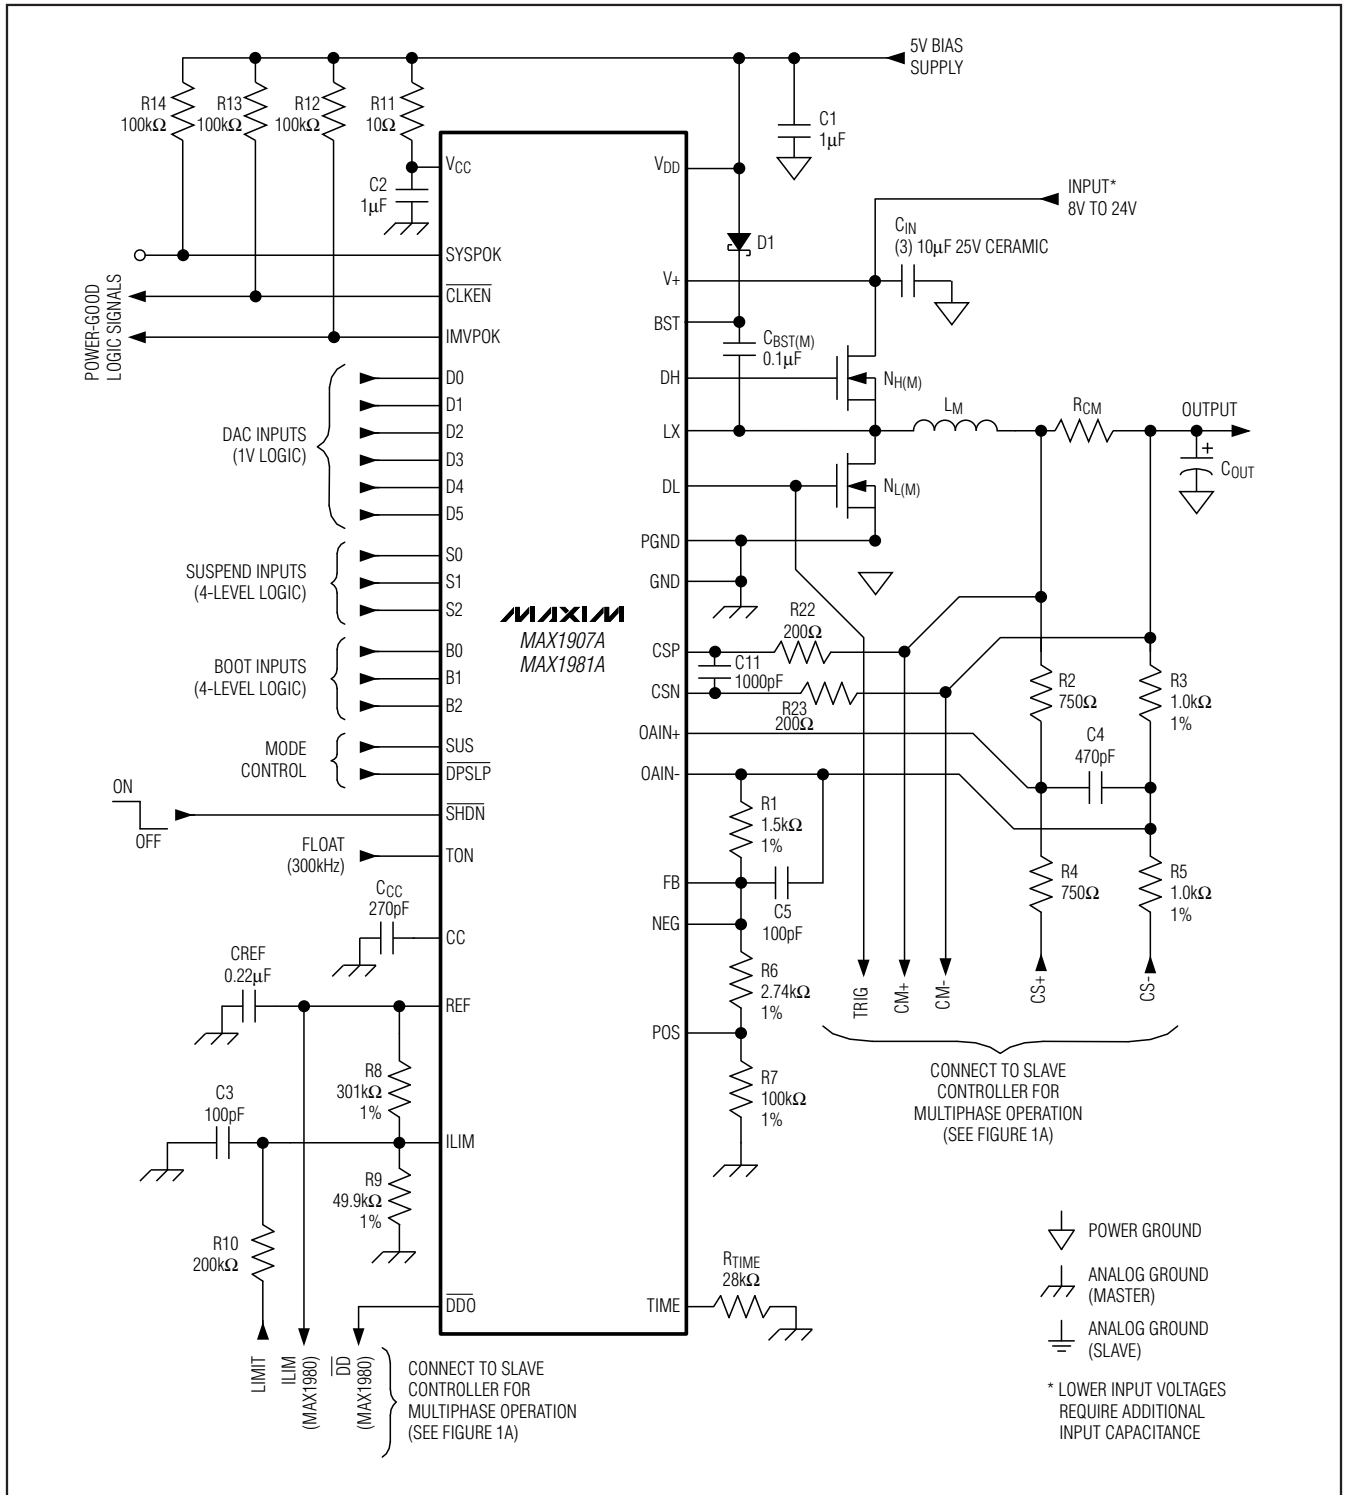
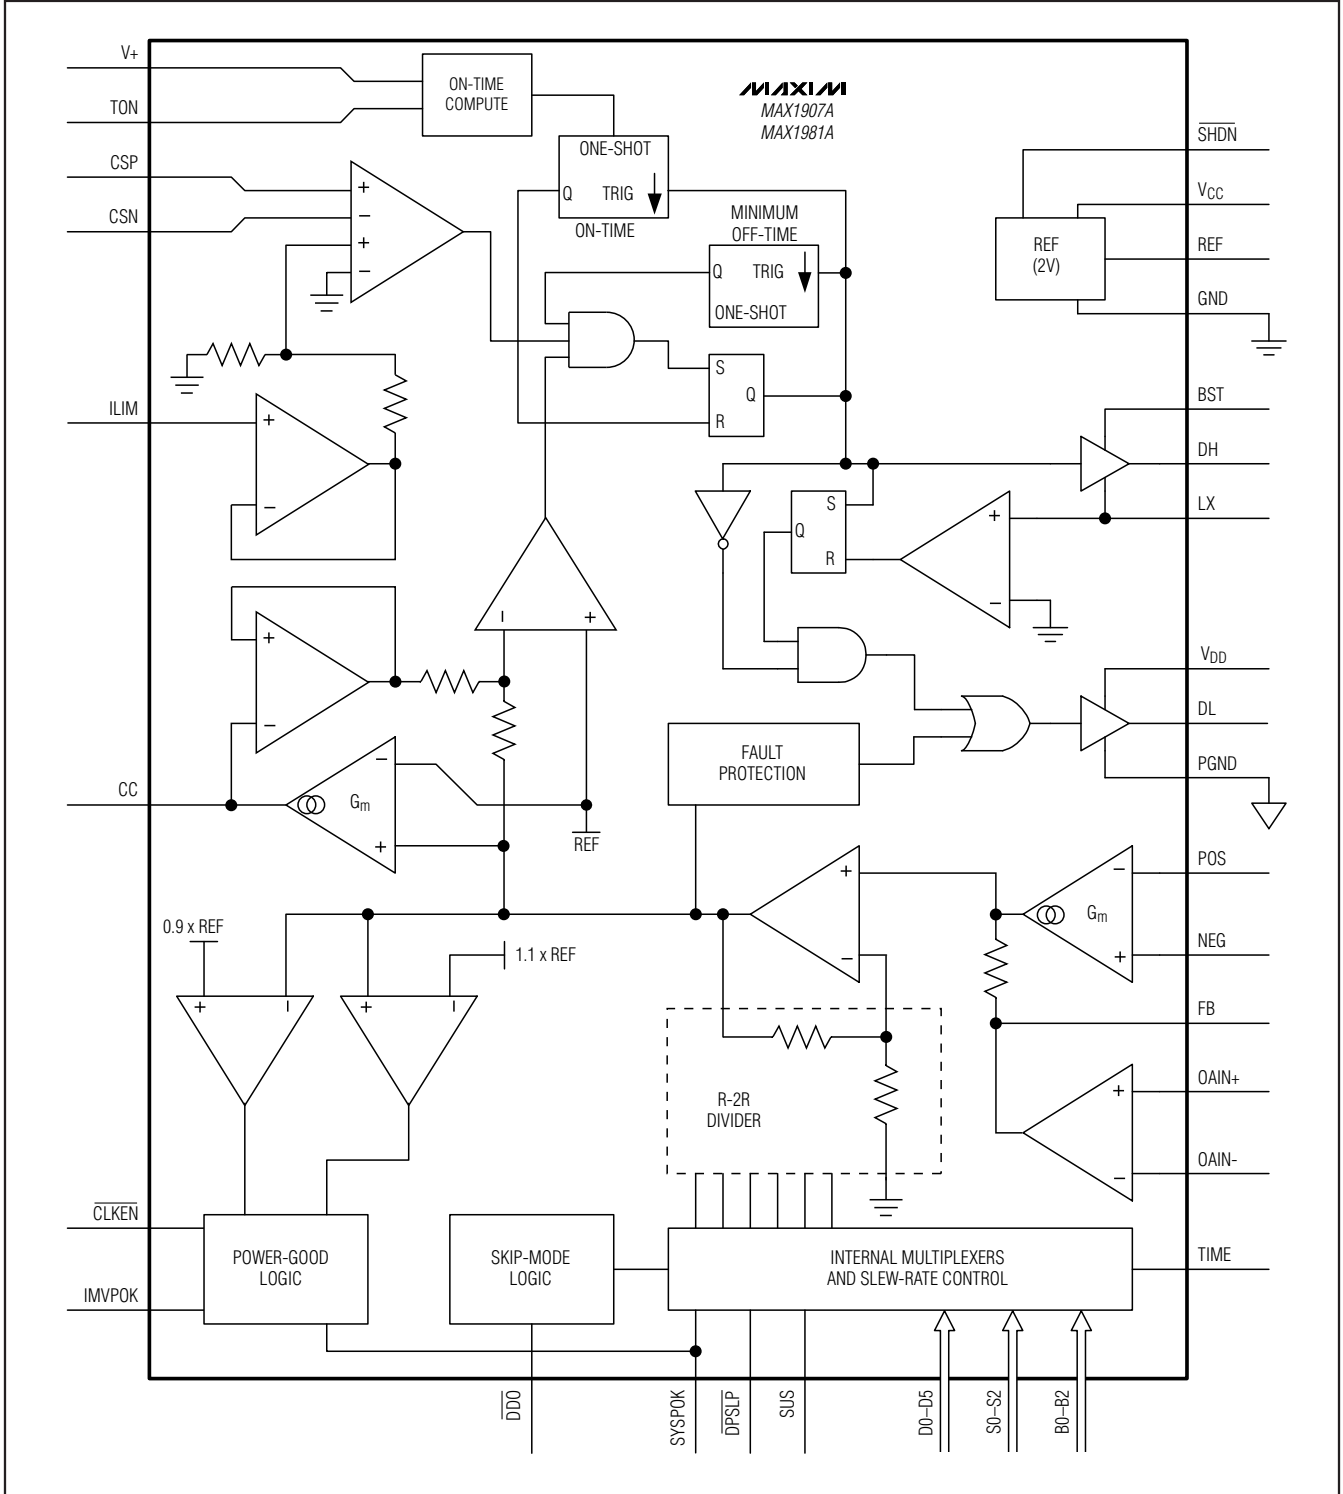

Figure 1. Standard Multiphase Application Circuit
Figure 2. MAX1907A/MAX1981A Functional Diagram
(Circuit of Figure 1, $V_+ = 12V$, $V_{CC} = V_{DD} = 5V$, B0–B2 set to 1.276V, S0–S2 set to 0.748V.)
Table 1. Component Selection for Standard Multiphase Applications (Figure 1)
The Quick-PWM control architecture is a pseudo-fixed-frequency, constant-on-time, current-mode regulator with voltage feed-forward (Figure 2). This architecture relies on the output filter capacitor's ESR to act as the current-sense resistor, so the output ripple voltage provides the PWM ramp signal. The control algorithm is simple: the high-side switch on-time is determined solely by a one-shot whose period is inversely proportional to input voltage and directly proportional to output voltage. Another one-shot sets a minimum off-time (400ns, typ). The on-time one-shot is triggered if the error comparator is low, the low-side switch current is below the current-limit threshold, and the minimum off-time one-shot has timed out.
Two transconductance amplifiers provide a fine adjustment to the output regulation point (Figure 2). One amplifier forces the DC average of the feedback voltage to equal the VID DAC setting. The second amplifier is used to create small positive or negative offsets to the feedback voltage, using the POS and NEG pins.
The POS/NEG amplifier is used to add small offsets to the VID DAC setting in deep-sleep mode ($\overline{DPSLP} = \text{low}$). The offset amplifier is summed directly with the feedback voltage, making the offset gain independent of the DAC code. This amplifier has the ability to offset the output by $\pm 200\text{mV}$. To create an output offset, bias POS and NEG to a voltage (typically V_{OUT} or REF) within their 0 to 2V common-mode range, and offset them from one another with a resistive divider (Figure 1). If V_{POS} is higher than V_{NEG} , then the output is shifted in the positive direction. If V_{NEG} is higher than V_{POS} , then the output is shifted in the negative direction. The output offset equals the voltage difference from POS to NEG.
In skip mode (SUS = high, or DPSP = low), an inherent automatic switchover to PFM takes place at light loads (Figure 3). This switchover is effected by a comparator that truncates the low-side switch on-time at the inductor current's zero crossing. The zero-crossing comparator senses the inductor current across the low-side MOSFET. Once VLX - VPGND drops below 4mV (typ), the comparator forces DL low (Figure 2). This mechanism causes the threshold between pulse-skipping PFM and non-skipping PWM operation to coincide with the boundary between continuous and discontinuous inductor-current operation. The load-current level at which PFM/PWM crossover occurs, ILOAD(SKIP), is equal to 1/2 the peak-to-peak ripple current, which is a function of the inductor value (Figure 4). For a battery range of 8V to 24V, this threshold is relatively constant, with only a minor dependence on battery voltage:
The current-limit circuit employs a unique "valley" current-sensing algorithm that uses a current-sense resistor between CSP and CSN as the current-sensing element (Figure 1). If the current-sense signal is above the current-limit threshold, the PWM is not allowed to initiate a new cycle (Figure 2). Since only the "valley" current is actively limited, the actual peak current is greater than the current-limit threshold by an amount equal to the inductor ripple current. Therefore, the exact current-limit characteristic and maximum load
The inverting (OAIN-) and noninverting (OAIN+) inputs are used to differentially sense the voltage across the voltage-positioning sense resistor. The op amp's output is internally connected to the regulator's feedback input (FB). The op amp should be configured as a noninverting, differential amplifier as shown in Figure 1. The voltage positioning slope is set by properly selecting the feedback resistor connected from FB to OAIN- (see the *Setting Voltage Positioning* section). For applications using a slave controller, additional differential input resistors (summing configuration) should be connected to the slave's voltage-positioning sense resistor (Figure 1). Summing together both the master and slave current-sense signals ensures that the voltage-positioning slope will remain constant when the slave controller is disabled.